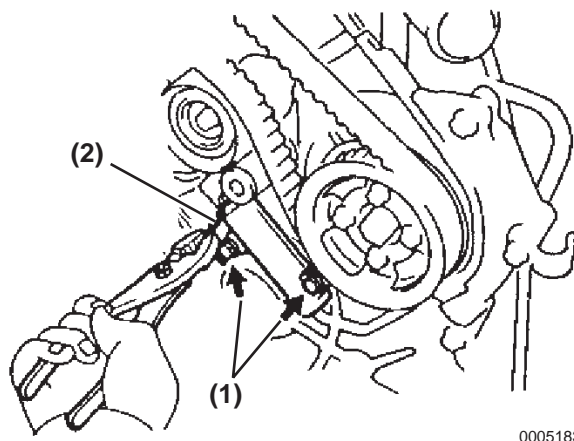

Figure 5-183
- Temporarily secure the timing belt tensioner using 2 bolts **(Figure 5-183, (1))**, while pressing the idler pulley onto the timing belt.
- Remove the 1.5 mm allen / hex wrench **(Figure 5-183, (2))** from the tensioner.